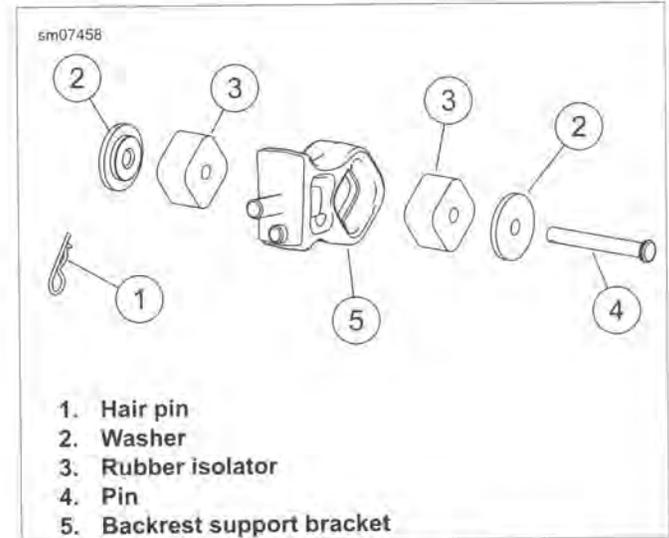

Figure 2-128. Mount and Isolator (typical)
2. See Figure 2-128. Remove hair pin (1).
3. Remove pin (4) and washers (2).
5. Remove isolators (3) from mount.
1. See Figure 2-128. Place the rubber isolators in the mount bracket.